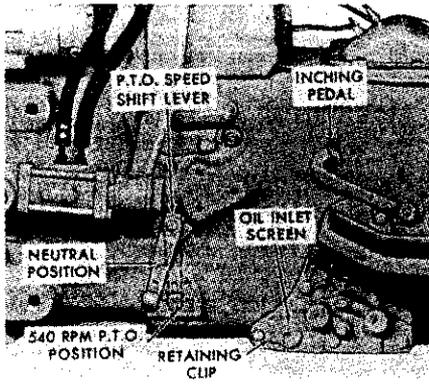

Fig. 309—View showing neutral and engaged positions for single speed PTO shift lever. Refer to Fig. 310 for 2-speed PTO.
**282. PTO SPEED SHIFT LINKAGE.** On single speed PTO models, the power take off drive is in neutral position with lever to front as shown in Fig. 309, or is in engine drive (540 RPM) position when lever is engaged in center hole; rear hole is not used on single speed PTO models.